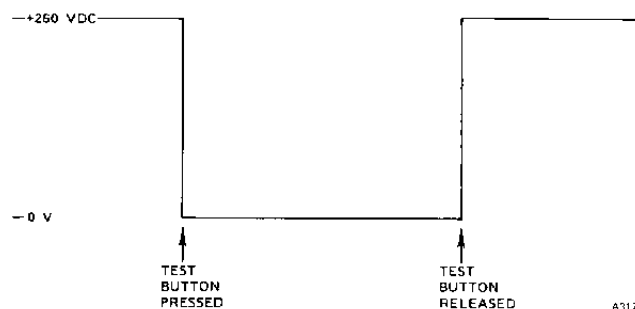

Figure 37—Detector D-lead Voltage - Manual Test
3. Due to the meter loading factor, the voltage from the D-lead to ground measures approximately +260 vdc. When the TEST button is depressed (in bypass mode) the voltage on the D-lead of the detector under test drops to 0.5 vdc or less (see Figure 37).